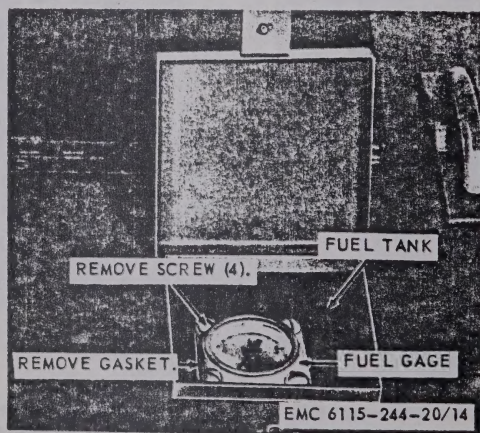

Figure 14. Fuel gage, removal and installation.
a. *Removal.* Refer to figure 14 and remove the fuel gage from the fuel tank.
- (1) Clean the fuel gage with an approved cleaning solvent and dry thoroughly.
- (2) Inspect the fuel gage for bends, cracks, restricted movement of linkage, and other damage.
- (3) Replace a defective fuel gage.
c. *Installation.* Refer to figure 14 and install the fuel gage in the fuel tank.